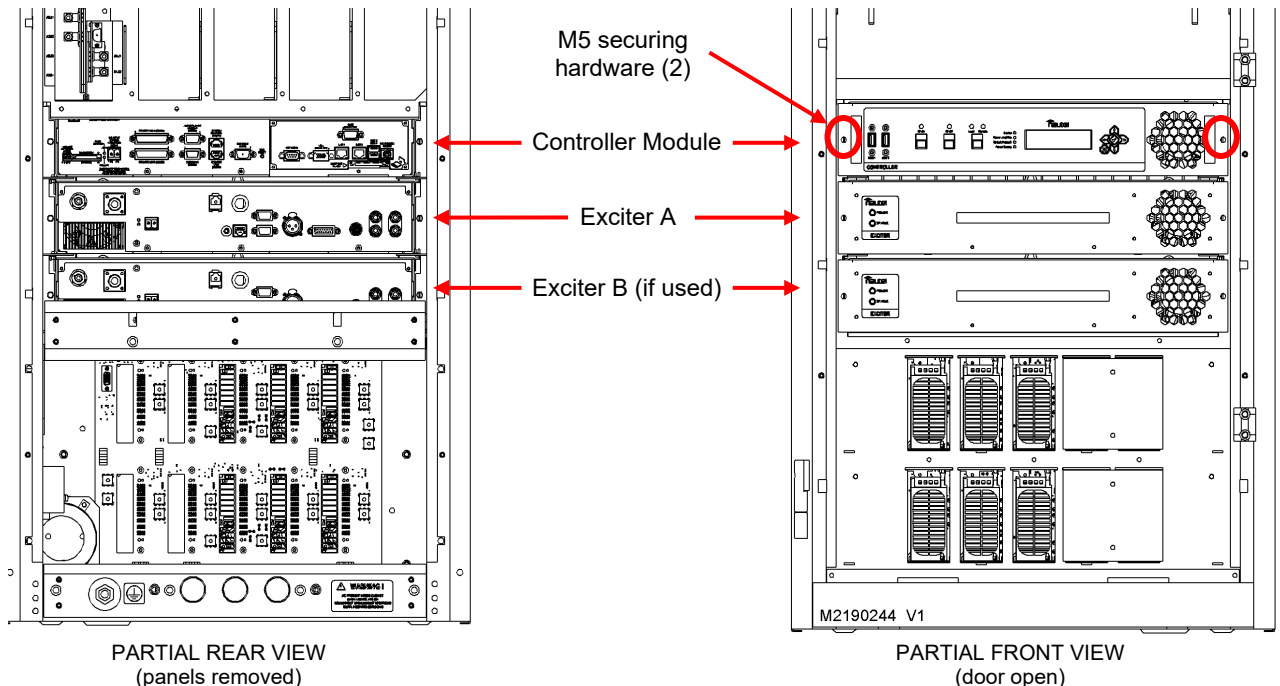

Figure 1: Controller Module and Exciter Locations (GV5/GV3.5 shown for reference)
- (b) Gain access to the controller module (see Figure 1) by opening the front door and removing the upper, rear panel. For GV30N, GV30 and GV40 models, remove the right-hand, upper, rear panel (as viewed from the rear).
- (d) From the front of the transmitter, use a # 2 Phillips screwdriver to remove the two M5 screws that secure the controller module to the transmitter (see Figure 1), and pull out the controller module. Retain the M5 screws.
- (c) Using retained hardware from step 3.1 (d), re-install the controller module and reconnect the mating connectors. See Figure 1 as required.